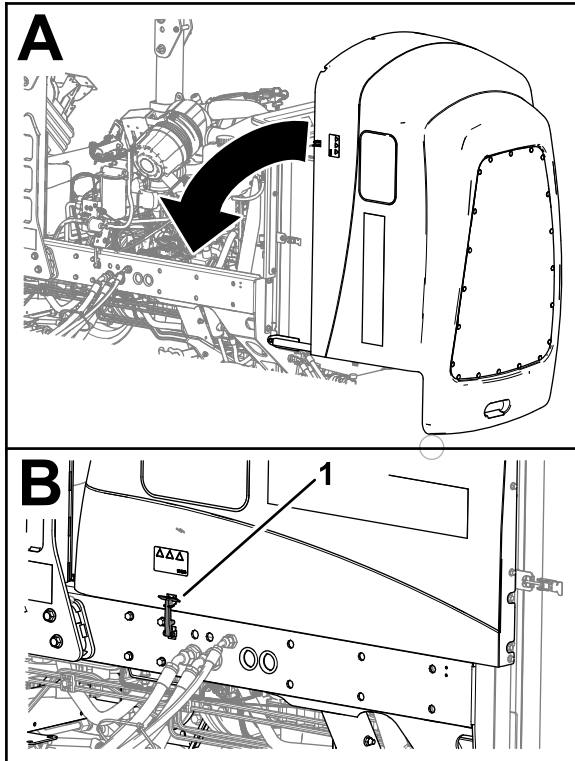

Figure 105
1. Carefully rotate the hood closed (Figure 105).